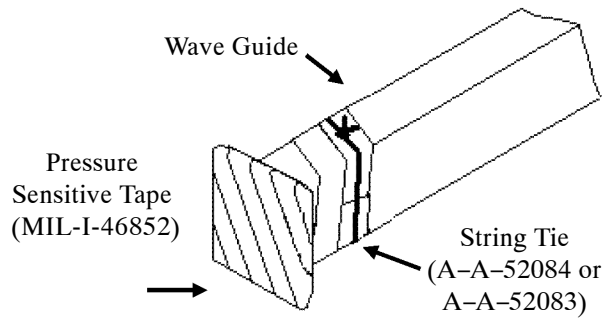

Figure 9. Tape Wrapped Wave Guide
12. Ensure wave guide is clean and free from moisture. Tape using a 50 percent overlap and ensuring all openings are covered. Secure tape with lacing and tying tape A-A-52084 for medium temperature, medium vibration applications, for high temp & vibe, use A-A-52083 (Figure 9).